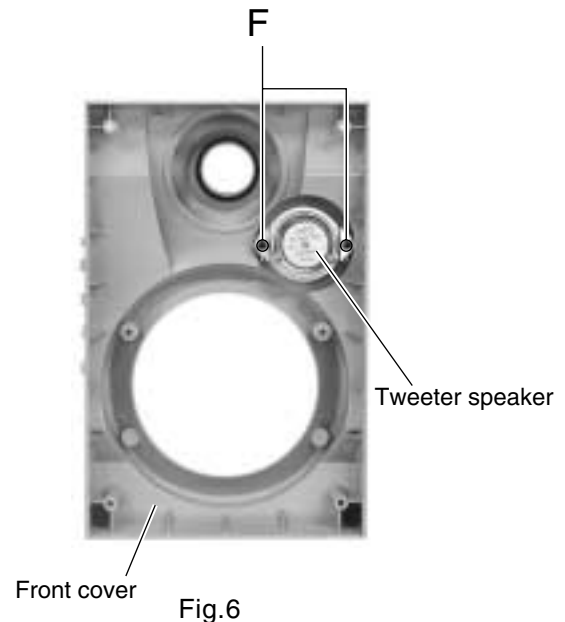

Fig.6
■ **Removing the tweeter speaker (See Fig.6)**